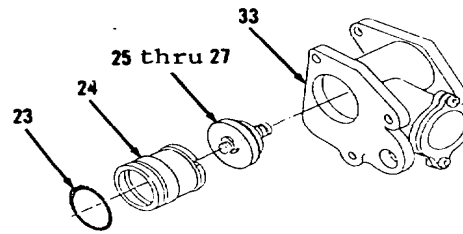
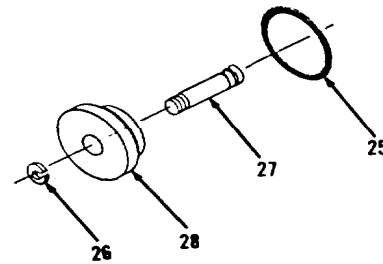
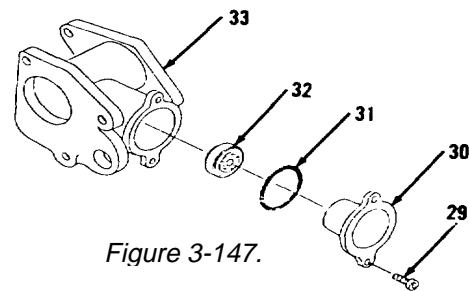

Figure 3-145.
Figure 3-146.
Figure 3-147.
20. Remove sleeve (24, Figure 3-145).
21. Remove preformed packing (23) from sleeve (24). Discard preformed packing (23).
22. Remove items 25 thru 27 as an assembly from housing (33).
23. Remove and discard preformed packing (25, Figure 3-146).
24. Remove ring (26).
25. Separate tappet (27) and guide (28).
26. Remove two screws (29, Figure 3-147).
27. Remove cover (30) and preformed packing (31). Discard preformed packing (31).
28. Remove valve (32) from housing (33).
1. Install valve (32) in housing (33) with pyramid side of valve (32, Figure 3-147) facing out.
2. Install new preformed packing (31) and cover (30). Lubricate outer diameter of new preformed packing (31) with clean diesel fuel.
3. Install two screws (29).
4. Position tappet (27) in guide (28, Figure 3-146).
5. Install ring (26).
6. Install new preformed packing (25) on groove of guide (28). Lubricate outer diameter of new preformed packing (25) with clean diesel fuel.
7. Install items 27 thru 25 as an assembly in housing (33, Figure 3-145).
8. Install new preformed packing (23) on groove of sleeve (24). Lubricate outer diameter of new preformed packing (23) with clean diesel fuel.